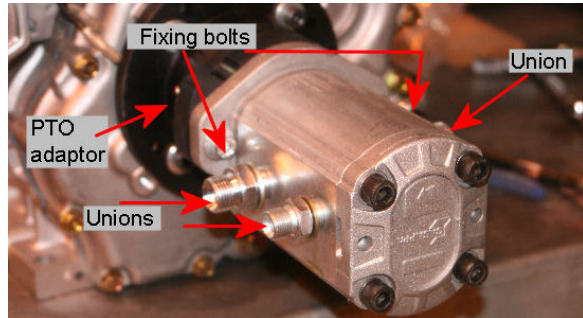

Fig 5-32 Pump unions
2. Remove the three unions from the pump (*Fig 5-32*).
3. Remove the two bolts securing the pump to the power takeoff (PTO) adaptor (*Fig 5-32*) and extract the pump.